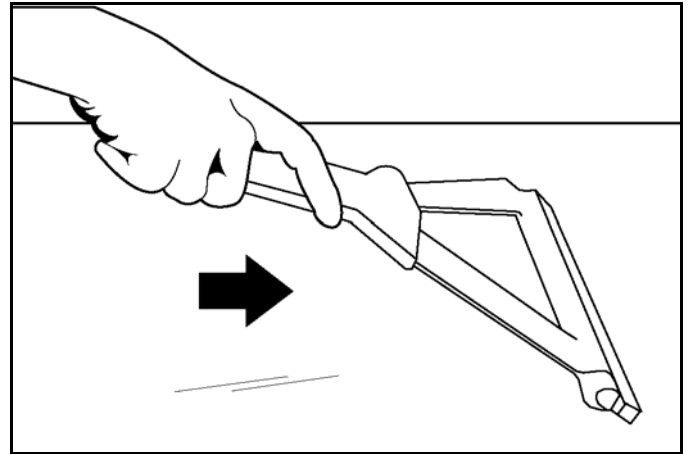

Figure-95
- Using the wiper squeegee, push the grease at the rear of the lower grill plate into the grease can. **Do not** use the grill scraper for this step. See Figure-95.